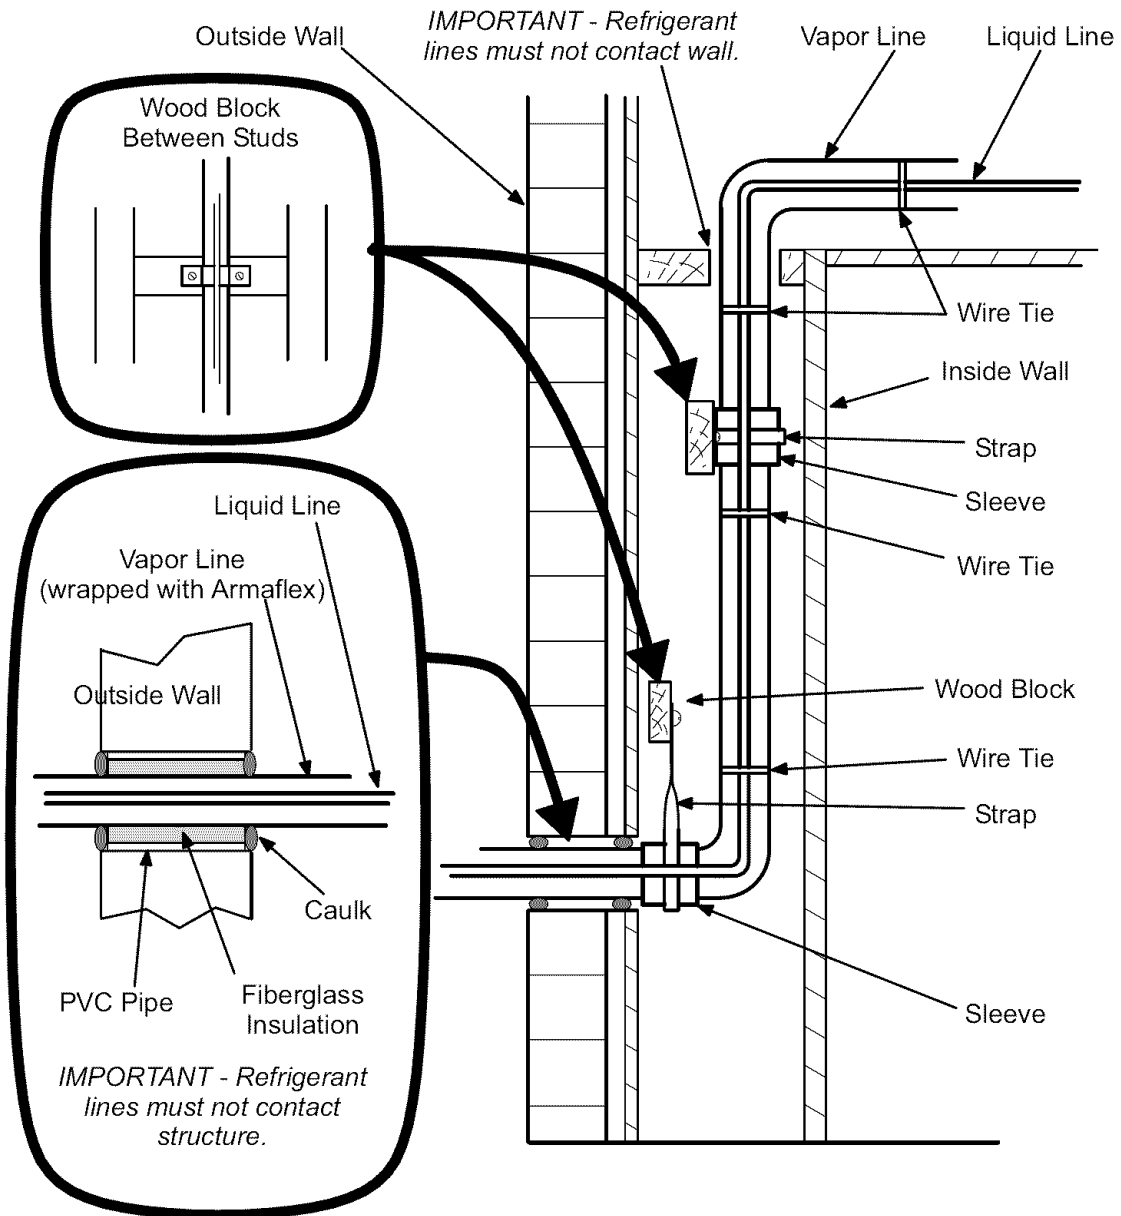
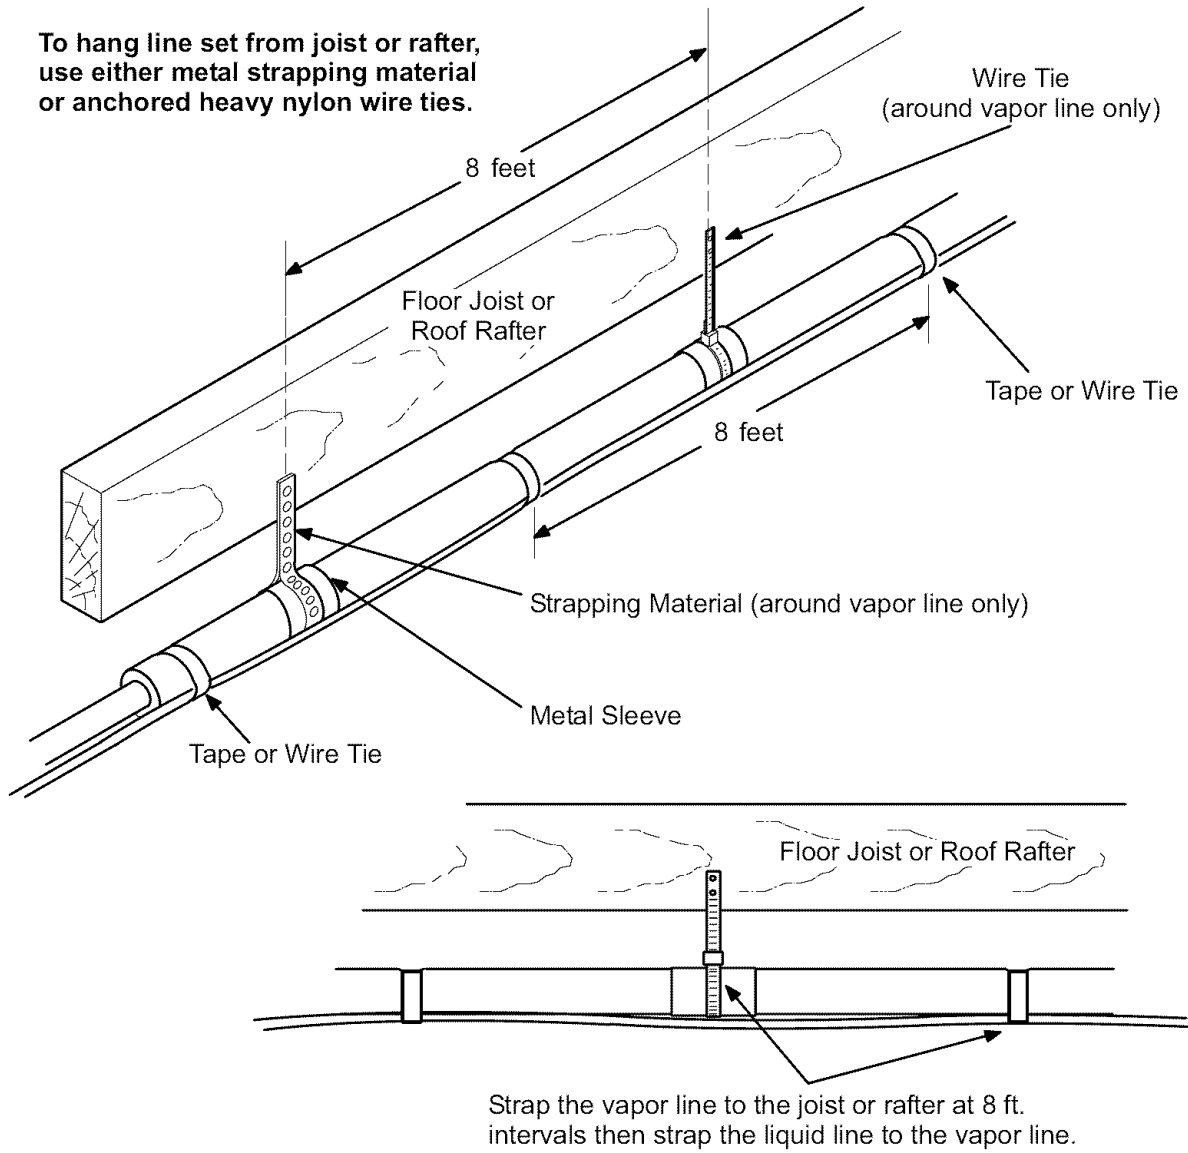
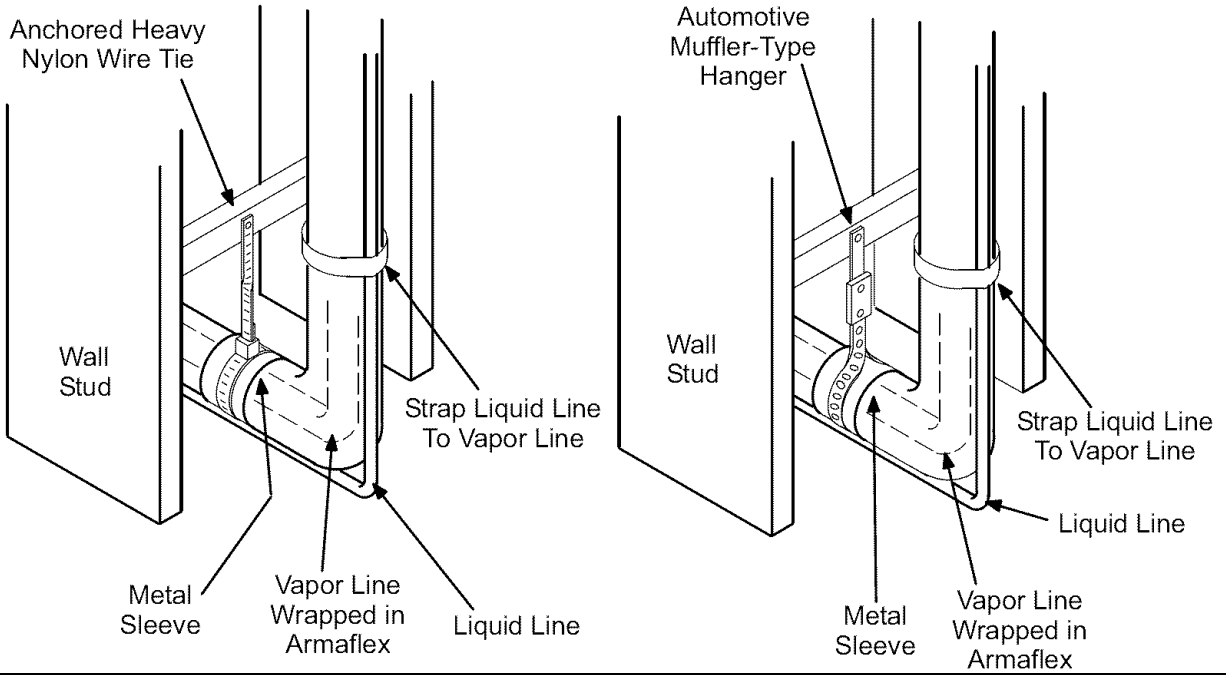
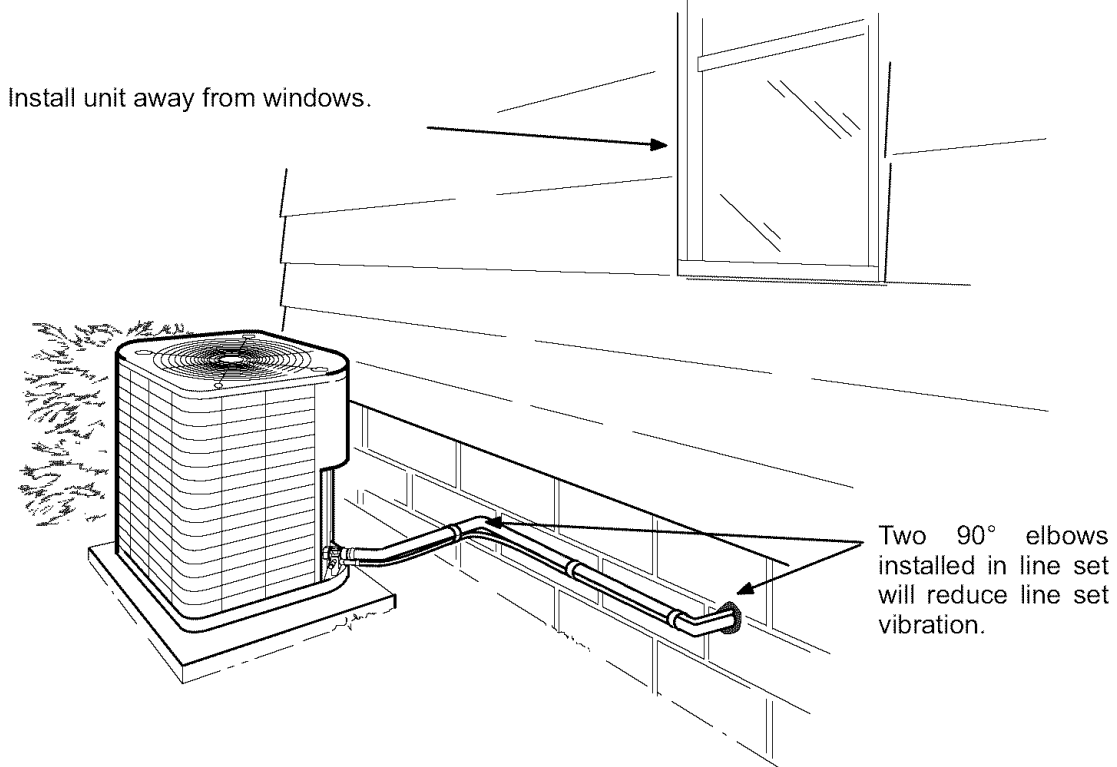

Figure 5
Figure 6
Figure 7
Figure 8
- 2- Line Set Isolation** - The following illustrations demonstrate procedures which ensure proper refrigerant line set isolation. Figure 5 shows how to install line sets on vertical runs. Figure 6 shows how to install line sets on horizontal runs. Figure 7 shows how to make a transition from horizontal to vertical. Finally, figure 8 shows how to place the outdoor unit and line set.